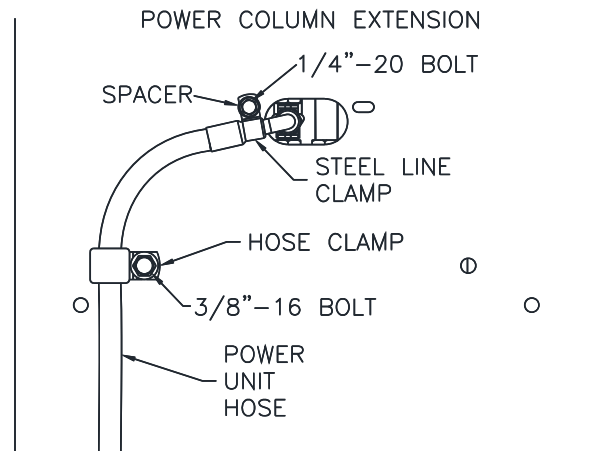

**Fig. 12 – Hose Mounting**
- 33) Install the block hose clamp bracket onto both column extensions using 1/4" -20NC x 3/4" lg. hex flange bolt and nut, see **Fig 12**.
- 34) Uncoil the Idler Side hose and Overhead hose and attach them together. Route the loose end through Idler Side column extension as shown in **Fig 12**.
- 42) Tighten the three hose fitting connections at the Tee taking care not to twist or change the lay of any hose. Install and tighten the block clamp on the power side to hold up the connect to the tee, see Fig 12.